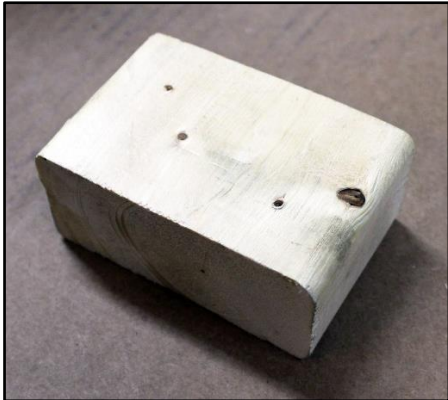

Figure 6
8. To prevent the sleeve from rotating when the spool is tightened, fabricate a suitable wooden block to insert between the filter adapter and a suitable point of resistance on the engine or airframe. Because installations differ, the block may not look exactly like the block shown in Figures 6 and 7. However, it should fit snugly between the sleeve and an adjacent structurally sound part of the engine or airframe that is able to resist the turning forces encountered without being damaged when the spool is tightened.